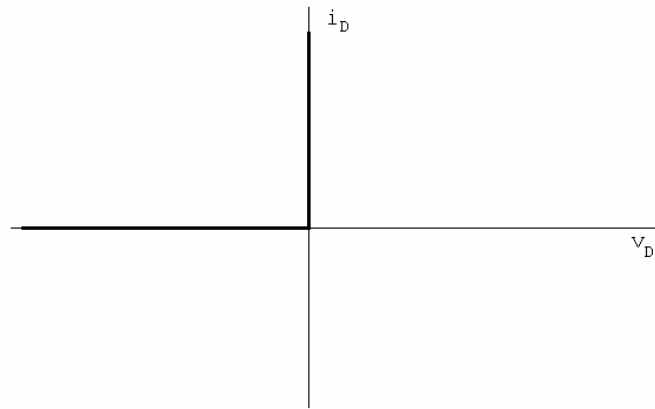

Figure A-2
*I-V Characteristic Curve:* In order to understand how a diode functions, it is useful to look at a plot of the voltage across the diode vs. the current through the diode. We call this type of curve and i-v characteristic curve. If we were to create an i-v curve of a resistor, where the current is directly proportional to the voltage ( $V=IR$ ), we would see a straight line with a constant slope or  $R^{-1}$ . When we plot the characteristic curve of an ideal diode (that switches on when the voltage across it goes above zero), we see zero current when  $v_D$  is negative and infinite current as soon as  $v_D$  tries to go positive. This is shown in figure A-2. Note that, when an ideal diode turns on, it is a short circuit and, therefore, the voltage across the ideal diode when it is on is always zero.